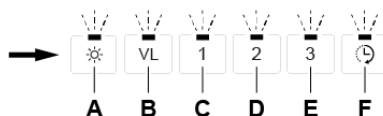

Fig. 4
- The LEDs for all the buttons will flash to indicate successful reprogramming of the operating mode, see Fig. 4.